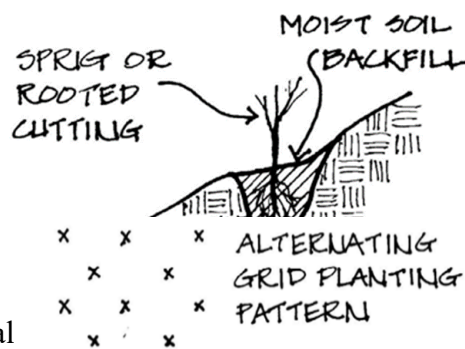

Figure 42: Sprigs/Plugs
- Plant in an alternating grid with 2 to 4 stakes per square yard (shown in Figure 42).